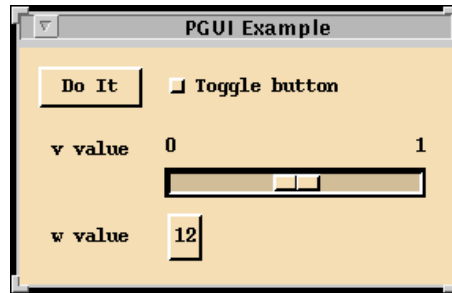

Figure A-2. Programmable GUI Examples Do It Dialog
Tools that use the GUI will create windows that contain, control elements such as buttons, sliders, pull-down menus, plots, and lists. For example, Figure A-2 shows the Programmable GUI (PGUI) Example **Do It** dialog.
- A *button* (square shaped) is either on or off. Its indicator is filled in when it is on. It can be toggled by pointing and clicking the left mouse button. The button shown in Figure A-2 is off. Activating a button causes some action to be performed.
- The button labeled **12** shown in Figure A-2 is a variable edit box (displaying the value of the variable  $w$ ). If you click this button, it is replaced by the “ $w$  value” text entry area as shown in Figure A-3. After a value is entered from the keyboard, the text entry area is replaced by the button (for example, the **12** button).